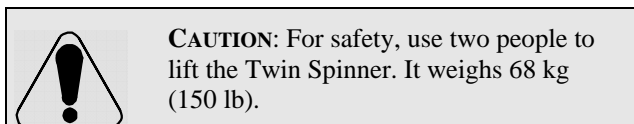

Figure 5: Twin Spinner
- Lift the Twin Spinner using the support handles on each side (Figure 5).